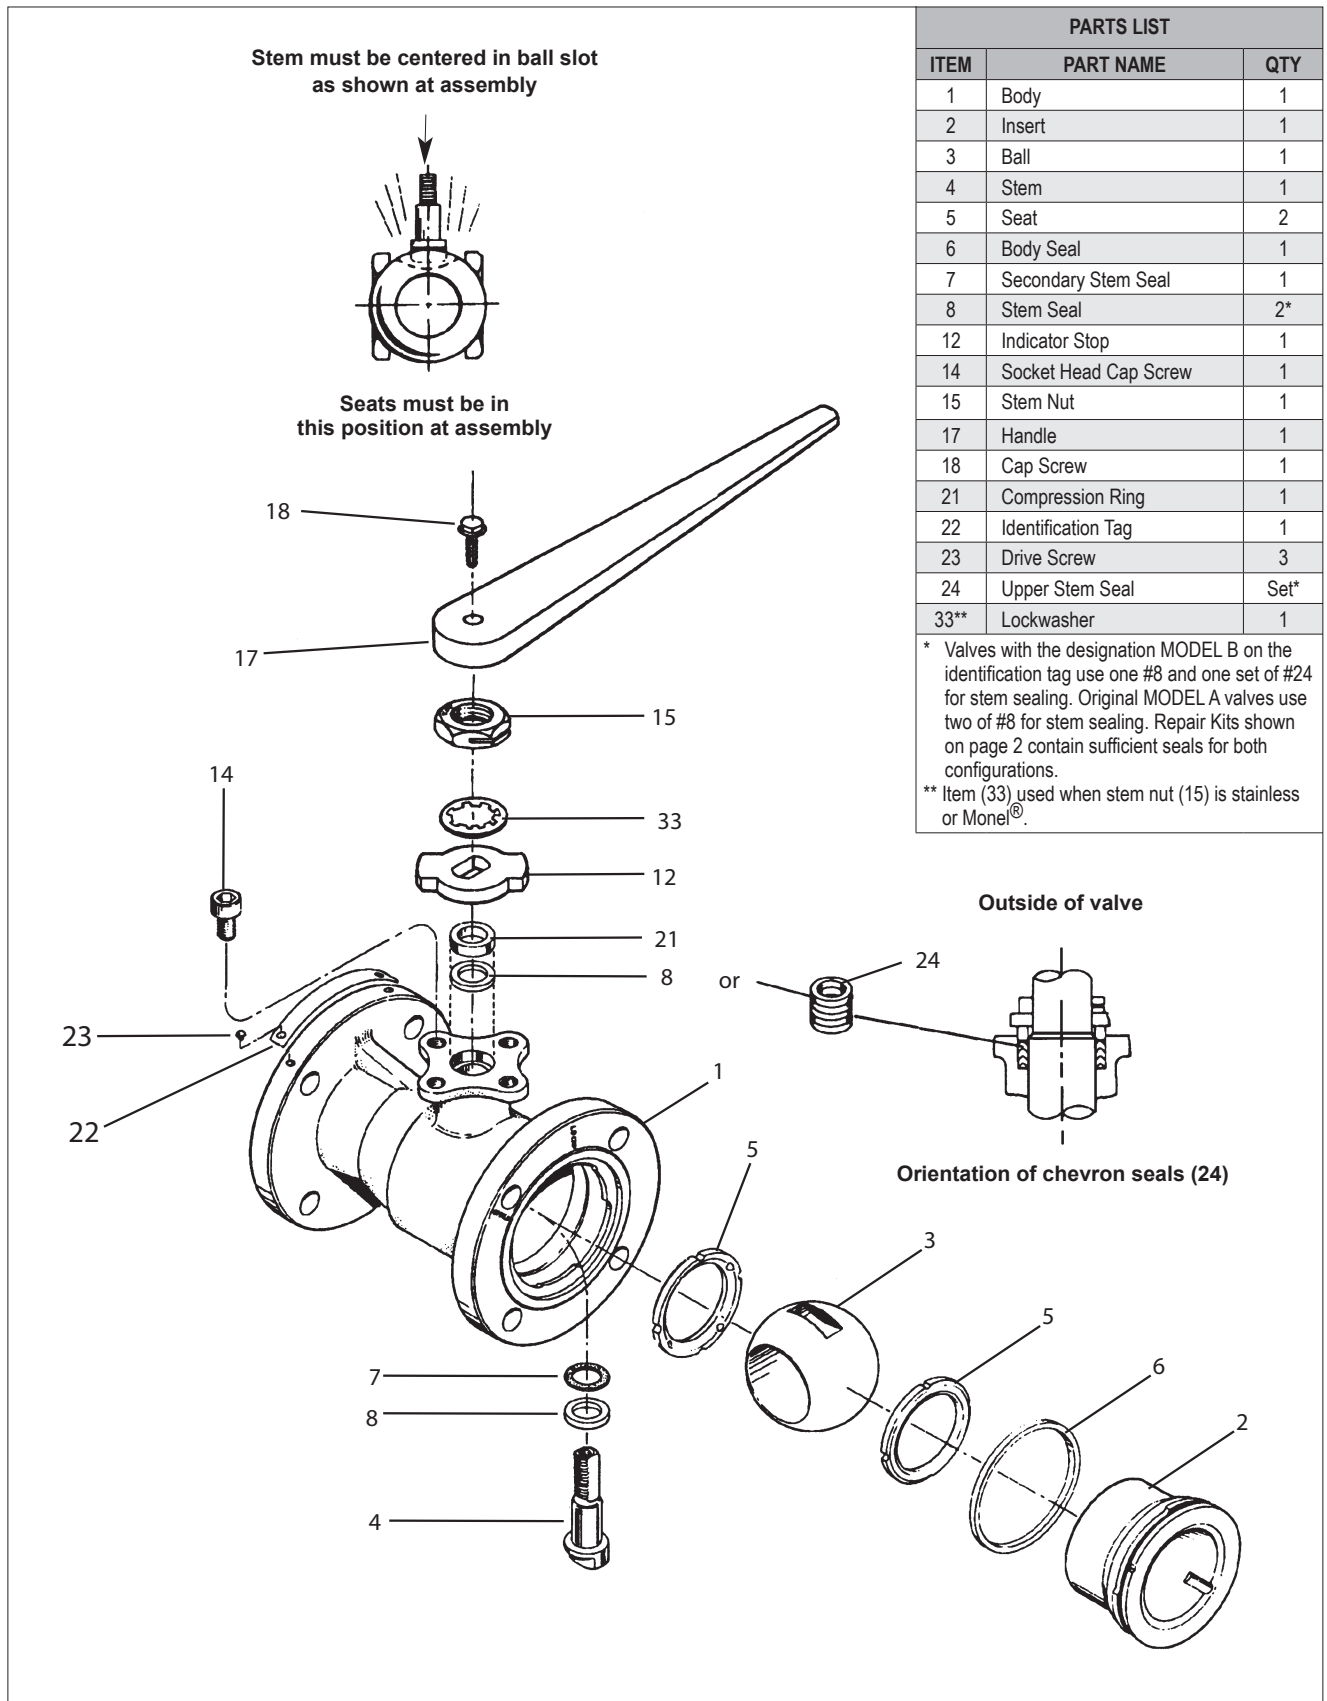

Figure 2.
NEVER LIFT THE VALVE OR VALVE/ACTUATOR ASSEMBLY BY THE ACTUATOR, POSITIONER, LIMIT SWITCH OR THEIR PIPING. PLACE LIFTING DEVICES SECURELY AROUND THE VALVE BODY. FAILURE TO FOLLOW THESE INSTRUCTIONS MAY RESULT IN DAMAGE OR PERSONAL INJURY FROM FALLING PARTS (**SEE FIGURE 2**).
1. Standing the body (1) carefully on end, drop in one seat (5) with the flat surface on the bottom (see **Figure 2**).
2. From the inside insert the secondary stem seal (7), and then the lower stem seal (8) into the stem bore.
- c. From **Figure 2**, the ballooned part number, part name and quantity required.